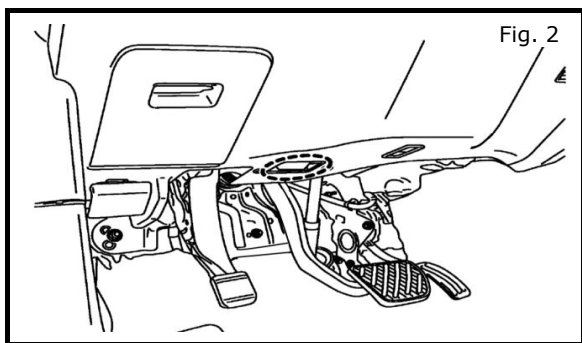

Fig. 2
- a) Locate OBD Connector under steering finisher as shown in Fig. 2.